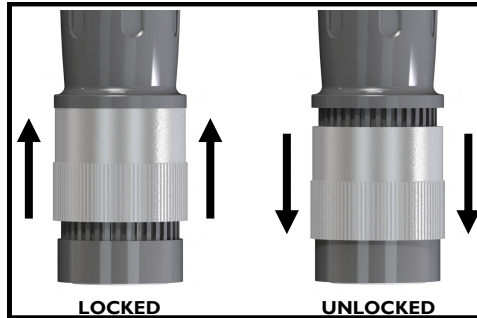

FIGURE 2
2. Hold the wrench in one hand by the locking ring. Using your second hand, turn handle clockwise to increase torque setting or counterclockwise to decrease. The micrometer scale is read by adding the primary scale and secondary scales. Figure 2 shows a setting of 42Nm. The primary scale reading is 40 and the secondary scale reading is 2.